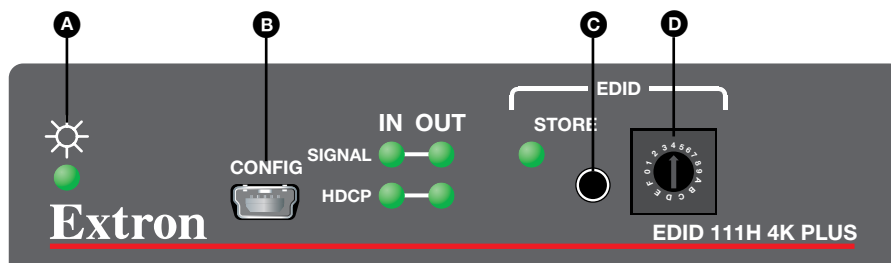

Figure 4. EDID 111H 4K Plus Front Panel
1. Set the rotary switch to the desired resolution (see figure 4, **D** on the previous page).